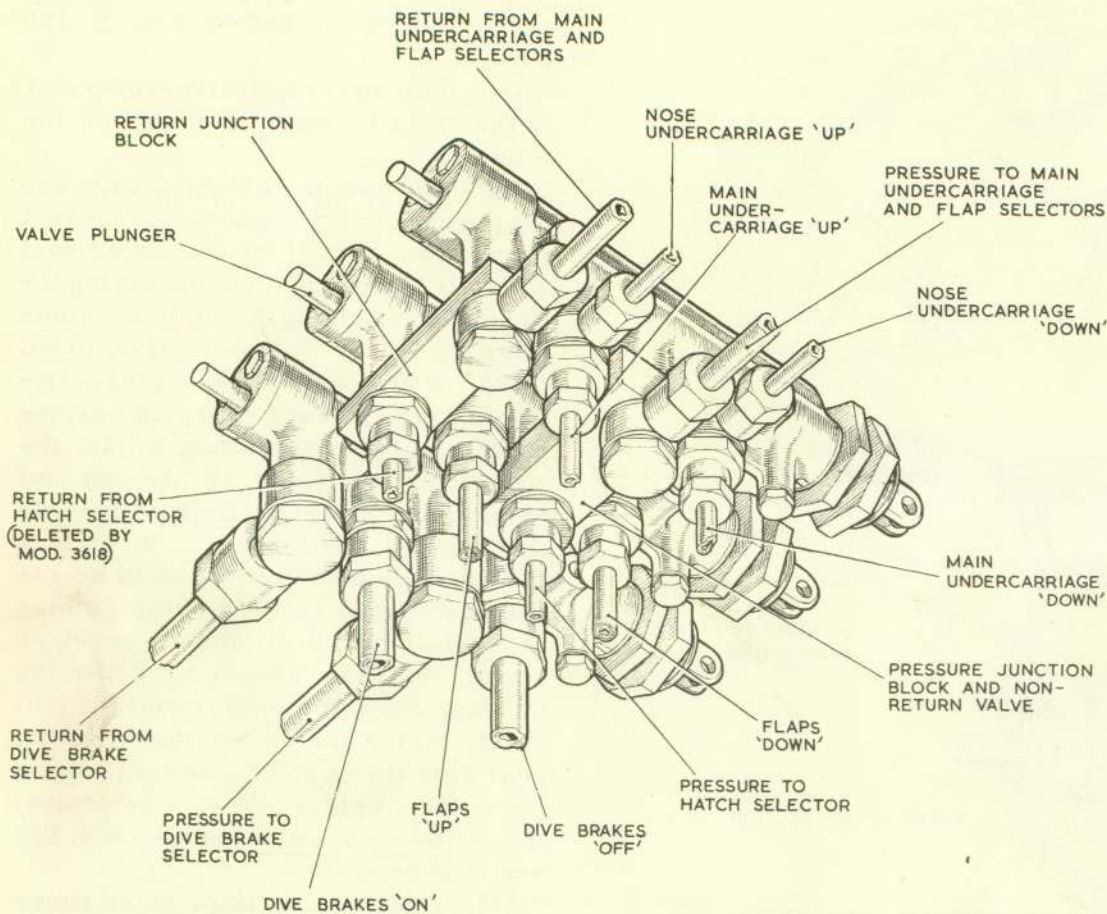

Fig. 9 Selector valve assembly
13. The selector valves (fig. 9) for the alighting gear, flaps and dive brakes are bolted together and connected side by side on No. 2 bulkhead; the fork ends of the plungers project forward through a sealing bracket into the cabin. The selector valve for the canopy hatch jettison is similar, ex-